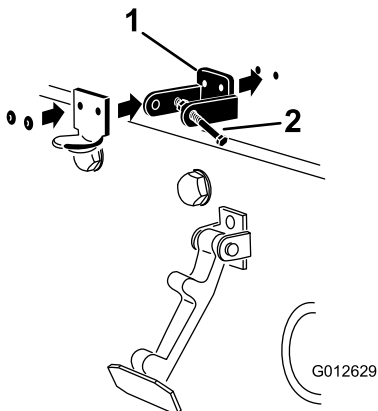

Figure 16
Note: The lock bracket must be against the hood (Figure 16). Do not remove the bolt and nut from the lock-bracket arm.
5. Rivet the brackets and the washers to the hood (Figure 16).